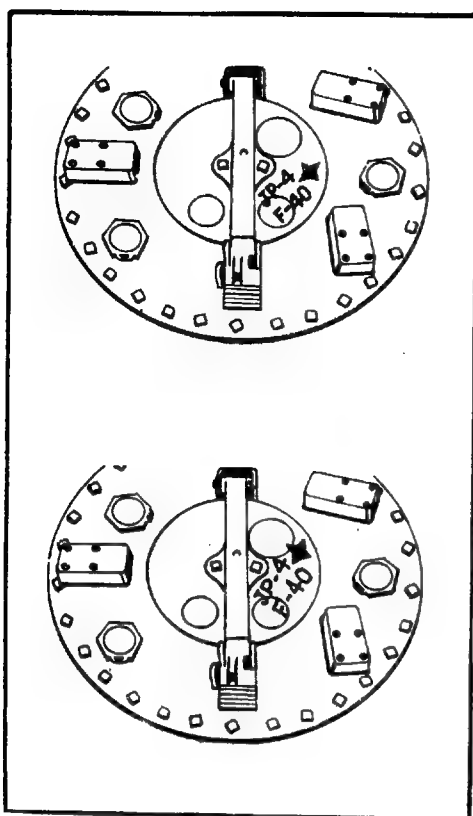

Figure 3-1. Manhole Cover Markings
3-51. MANHOLE COVER AND NOZZLE MARKINGS. Application and size of manhole cover and nozzle markings. These markings shall be applied to all manhole covers and nozzles on aviation and rocket fuel and oil dispensing units. Oil dispensing units may be marked by stencilling with black paint, color number 17038 or using reflectorized markings listed in Section V, paragraph 5.1.b. (Reference figures 3-1 and 3-2.) Jet fuel and AVGAS dispensing units will be marked as follows:
a. JET FUEL DISPENSING UNITS. Manhole cover and nozzle markings on jet fuel dispensing units shall be applied utilizing a red background with silver letters and numbers as illustrated in figures 3-1 and 3-2.
b. **AVGAS DISPENSING UNITS.** Manhole cover and nozzle markings on AVGAS dispensing units shall be applied utilizing a purple background with silver letters and numbers as illustrated in figures 3-1 and 3-2.